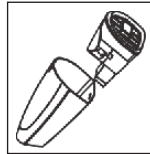
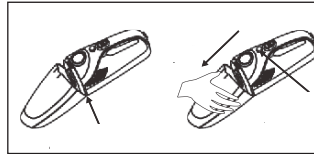

Fig. 5
Fig. 6
- Insert the filter cartridge (17), sponge filter (16), and HEPA filter (15), into the container (18), respectively - Fig. 5, and then assemble the entire set in the handheld vacuum cleaner (14) - Fig. 6.
- Remove the container - Fig. 6.
- Remove the HEPA filter (15), sponge filter (16) and filter insert (17), respectively from the container (18) above the bin, and clean all components.
- the HEPA filter (15), sponge filter (16), filter cartridge (17), and container (18), can be cleaned under running water,